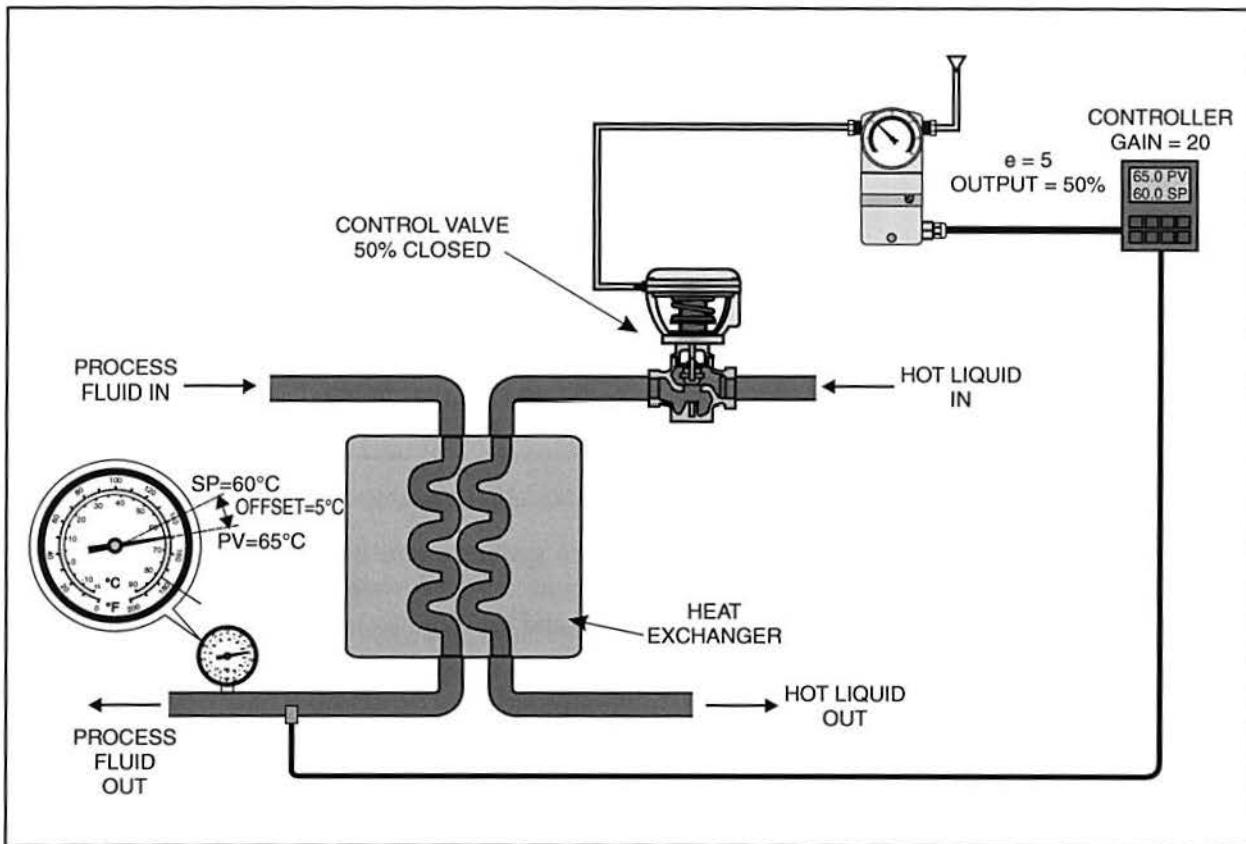
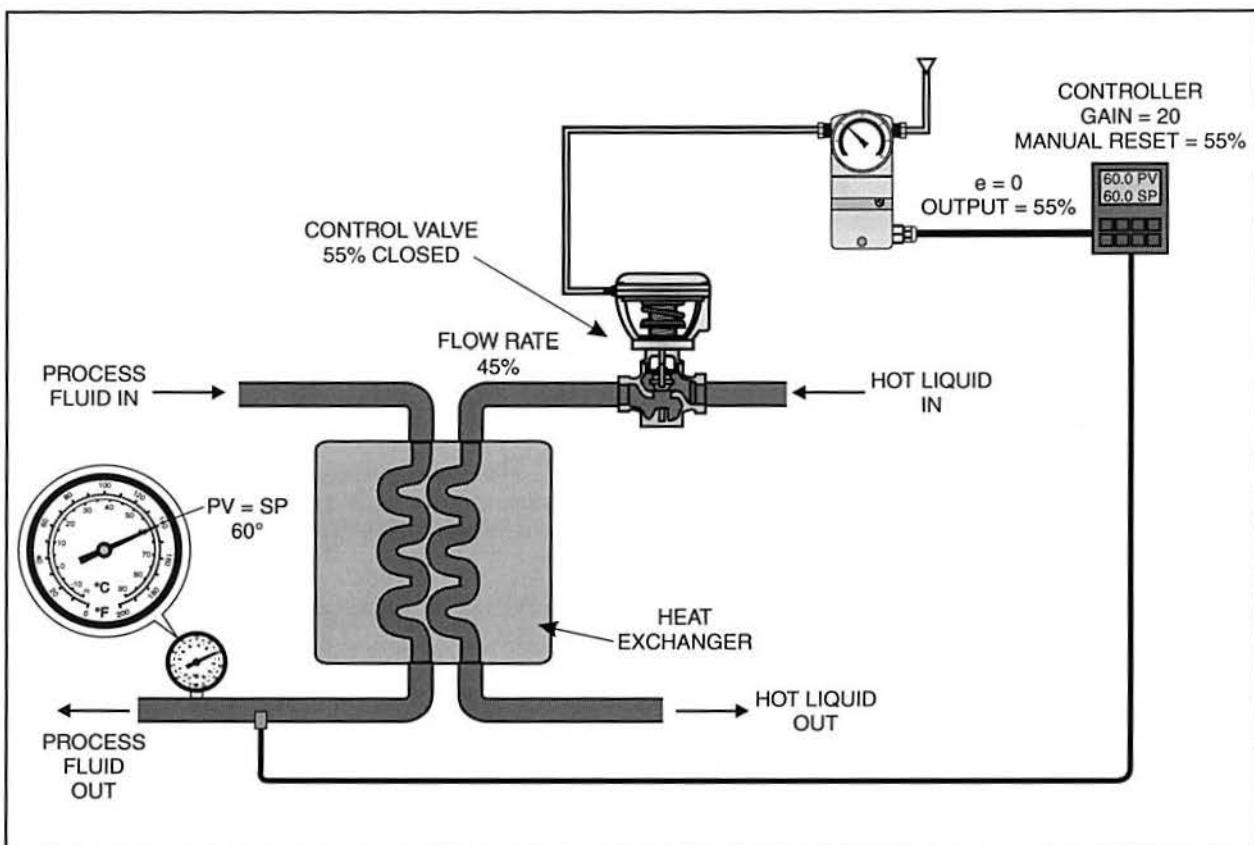

Figure 25. Offset in a Proportional System
Figure 27. Proportional System with Manual Reset
For example, the temperature control system in figure 25 has a 5°C offset using a proportional controller without manual reset. This offset is what enables the controller to provide the output needed to make the heat transfer from the hot liquid side of the heat exchanger sufficient to maintain the process fluid near the setpoint. If the error goes to zero, the controller output also goes to zero because of the proportional relationship between the output and the error. This would cause the process fluid temperature (PV) to move away from the SP.
If the manual reset is set to 55% for the system in figure 25, the control valve is closed another 5% ($50 + 5 = 55\%$) and the offset is eliminated, as shown in figure 27.